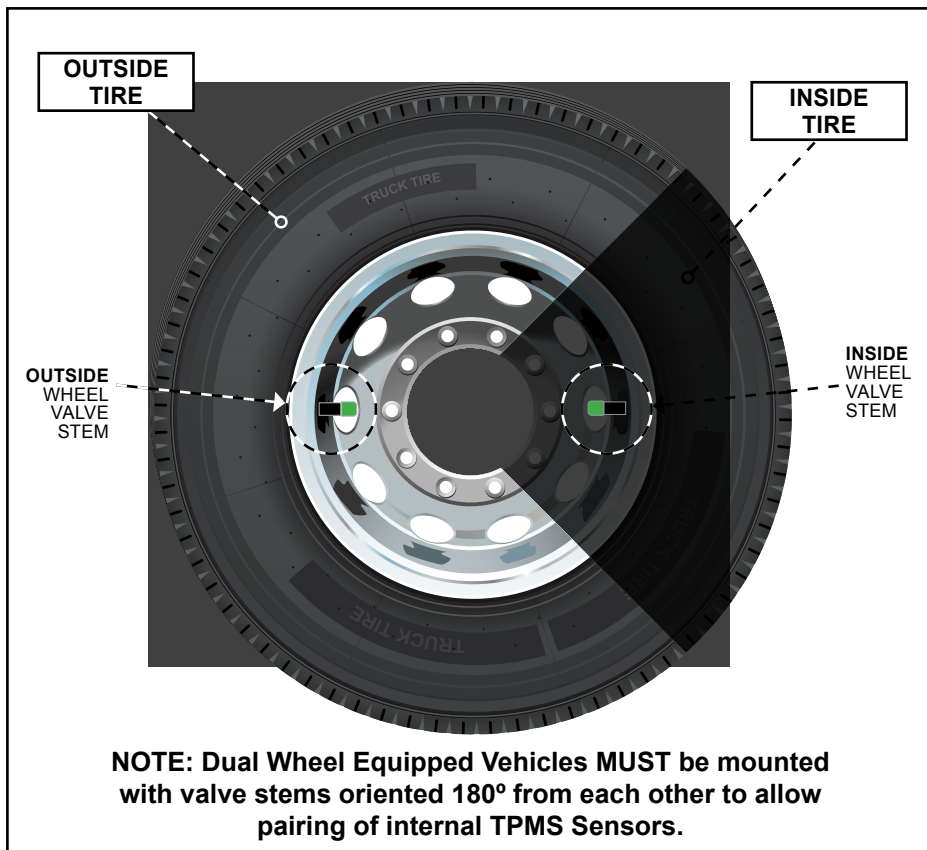

Figure 1: 180° valve stem orientation for dual wheel vehicles.
1. Please review the following instructions to ensure proper orientation of internal TPMS Sensors using the 180° valve stem orientation method. See Figure 1.